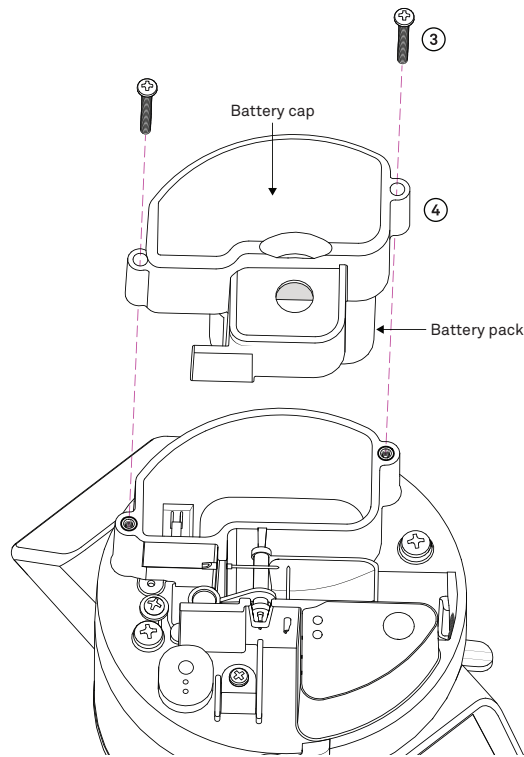

Figure 24 Battery cap removal
4. Lift off the cap (Figure 24)